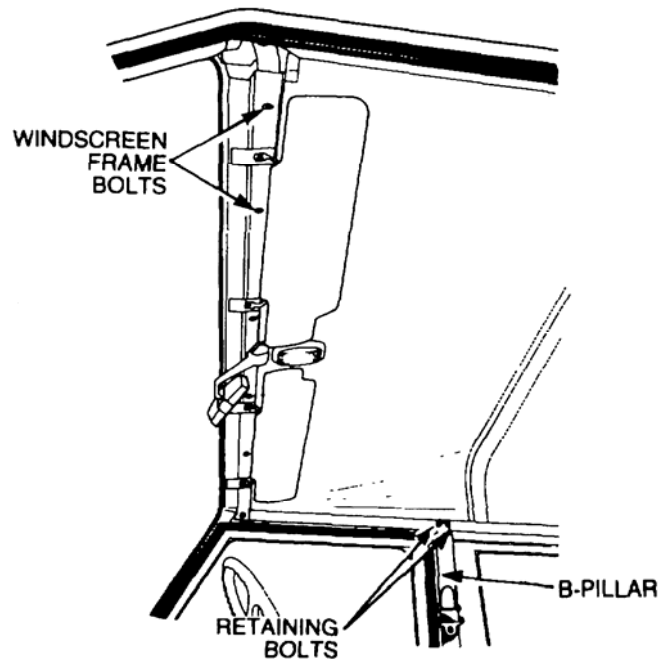

Figure 13 Removal of the Windscreen Frame Bolts
- ee. Remove the eight bolts securing the roof panel to the top of the windscreen frame (Figure 13) and discard the sealing strip.
- ff. Remove the four nuts and bolts that secure the roof panel to the top of pillars B (Figure 13) and C.
- u.** Install the four nuts and bolts that secure the roof panel to the top of pillars B (Figure 13) and C.
- v.** Install the eight bolts that secure the roof panel (Figure 13) to the windscreen frame.